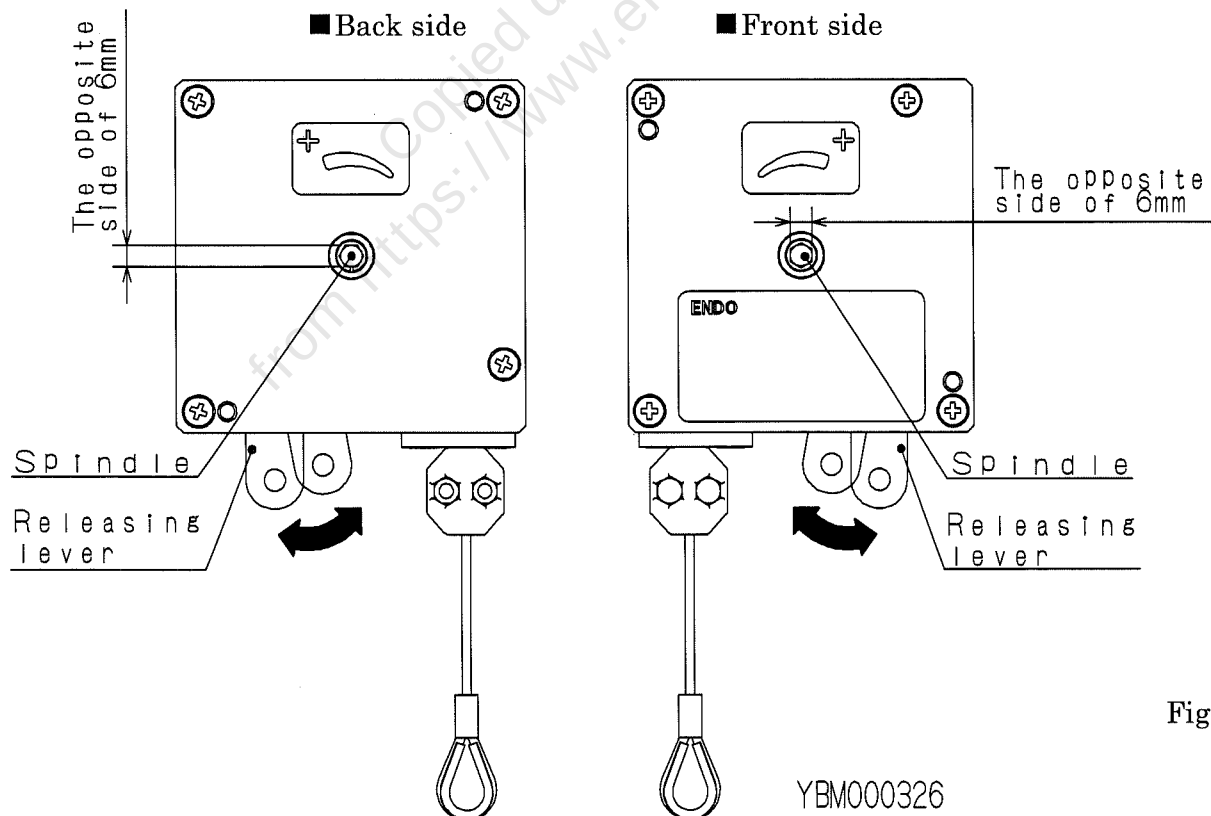

Fig.1
- 2) Increase the spring tension by turning the spindle to the + side with a hexagon socket screw key. (see Fig.1)